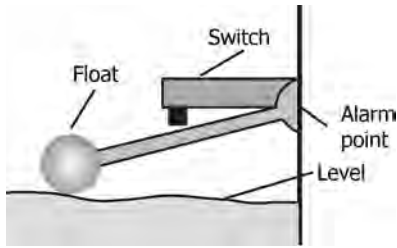

FIGURE 1.16 Float-type level measurement.
- Figure 1.16 illustrates float-type level measurement.